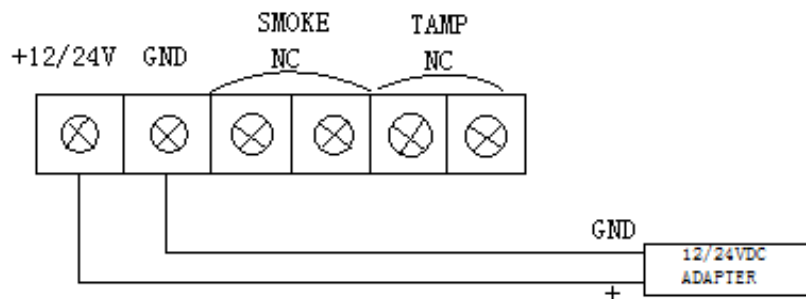
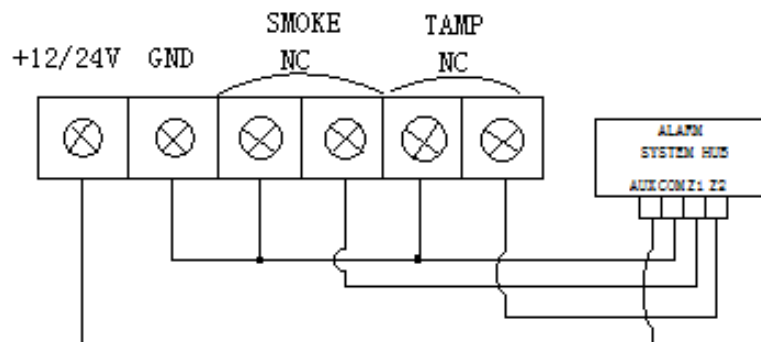

Fig.1- Power adapter connection
Fig.2-Alarm system hub connection
4. If the sensor is to be VDC powered, connect wires observing Fig.1. If the sensor is to be connected to alarm system, connect wires observing Fig.2.
There are two powering modes for the sensor. By default it's powered by a factory included battery. Alternatively it can work with a constant current, after connecting a 12/24 VDC power source to +12/24 and GND terminal (Fig.1). Powering mode configuration is carried out automatically, while sensor is being included into the Z-Wave network. When battery powered, a Smoke Sensor communicates with the Z-Wave network main controller periodically. Smoke detection is sent immediately. Configuration parameters and association settings are sent periodically at specified wake up intervals, or at a manual wake up (triple click B-button). In DC powering mode, configuration and association parameters are sent when necessary, and additionally the smoke sensor serves as a Z-Wave signal repeater.
- 3) Install the constant power connecting terminal, observing the Fig.1
- 4) Connect the constant current power to the terminal (12/24VDC) to +12 and GND terminals (Fig.1)